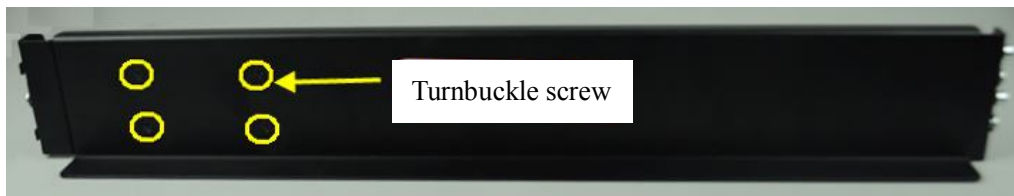

Figure 4-1
1. Length of front and rear rail could extend freely when pulled, in order to guarantee guide rail bearing, a certain friction is required during extension, otherwise, both front and rear rails will become too loose; on the contrary, if too tight, front and rear rails will not be able to extend, it is required to loosen four turnbuckle screws as shown in Figure 4-1 according to situation.